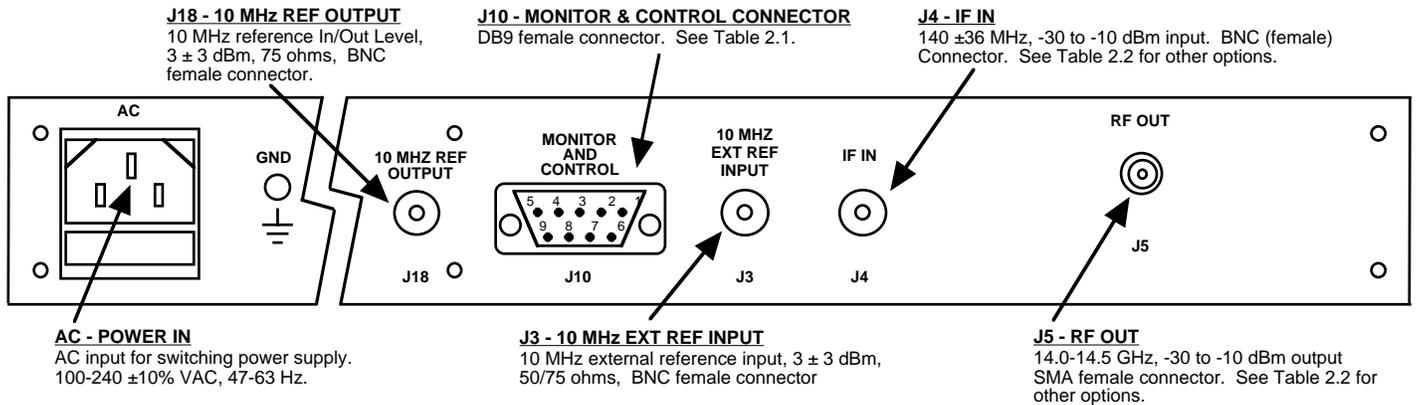

FIGURE 2.2 2015-146 Rear Panel Inputs and Outputs
2.2 Rear Panel Input / Output Signals - Figure 2.2 shows the input and output connectors on the rear panel.
1. Connect a -30 dBm to -10 dBm, 140 MHz signal to IF IN, J4 (Figure 2.2)
Alarm indications appear on the LEDs (see figure 2.2).